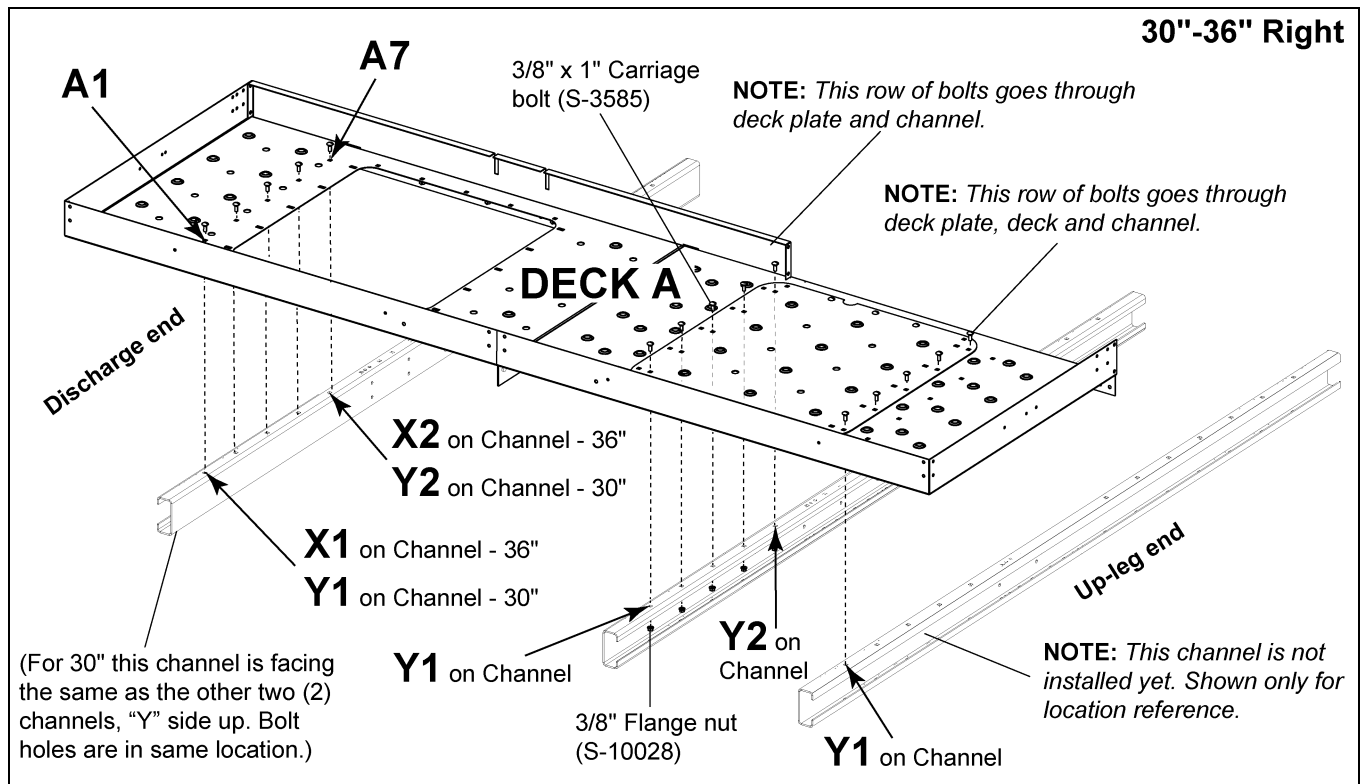

Figure 8H
3. At the **Discharge End**, use a punch as needed to line up. (See Figure 8H.)
- b. At the **hatch side** - channel hole **Y1** on the cross deck support channel to Deck A and deck plate cover. (See Figure 8H on Page 56.)